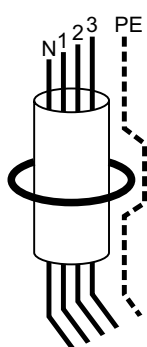

Figure 1.
- use a toroid with a diameter far larger than the diameter of the cable (2 x diameter) (figure 1).